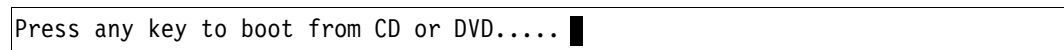

Figure 9-127 Prompt to press a key to boot from the CD or DVD
- When the DVD starts to load, if prompted to press any key (Figure 9-127), press a key so that the DVD starts to boot. If you do not press a key, you return to the UEFI setup window.